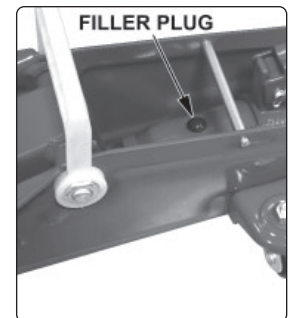

Fig.3
- 6.6. To check the oil level, fully lower the jack. Remove oil filler plug (fig.3). The correct level is just below the bottom of the plug. If oil level is low, fill as required.